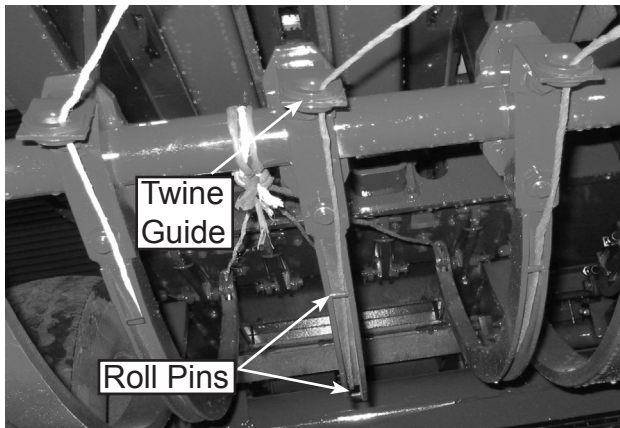

Figure 31 - Twine Needles
6. Route twine so it glides on top of the roll pins that are in the twine needles (see Figure 31). Each Needle has 3 roll pins.